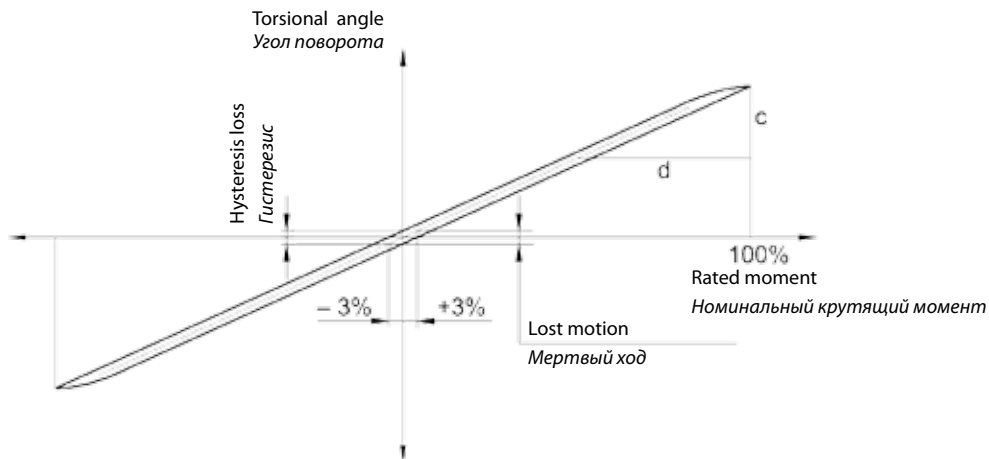

Fig. 3.7a: Hysteresis curve and the definition of stiffness T, E, H, M series
If the input shaft and the case are fixed and a torque is applied to the output flange, then the load diagram has a shape of a hysteresis curve (Fig. 3.7a).
Lost motion (LM) is a pitch angle of the output flange at  $\pm 3\%$  nominal torque measured on the centerline of the hysteresis curve (Fig. 3.7a).